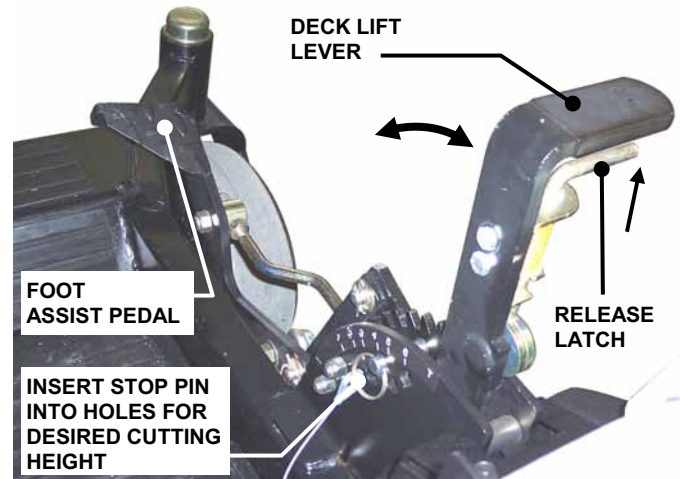

FIGURE 3.3
**IMPORTANT:** There is a foot assist pedal located to the right front side of the footrest. Always use this assist pedal to raise or lower the deck to the desired cutting height. See Figure 3.3.